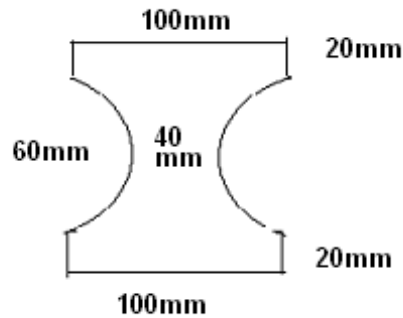

Figure 5
5. Find the ratio of maximum shear stress to the mean shear stress for a cross section in the figure 5. [16]